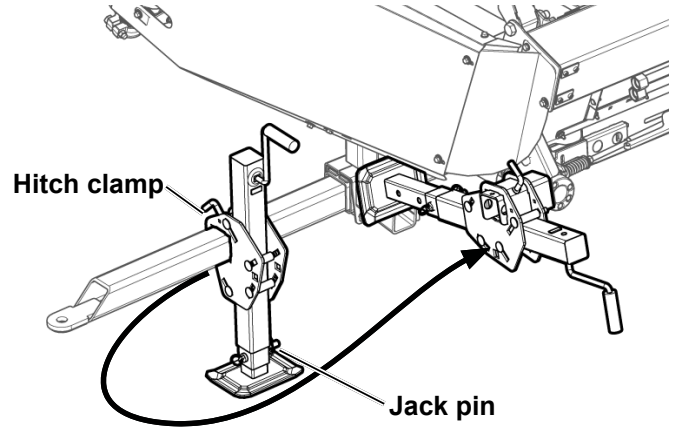

Fig. 69
3. Release the hitch clamp, remove the chain and slide the jack off the hitch tube. Store the jack as shown in Fig. 69, and tighten the clamp.